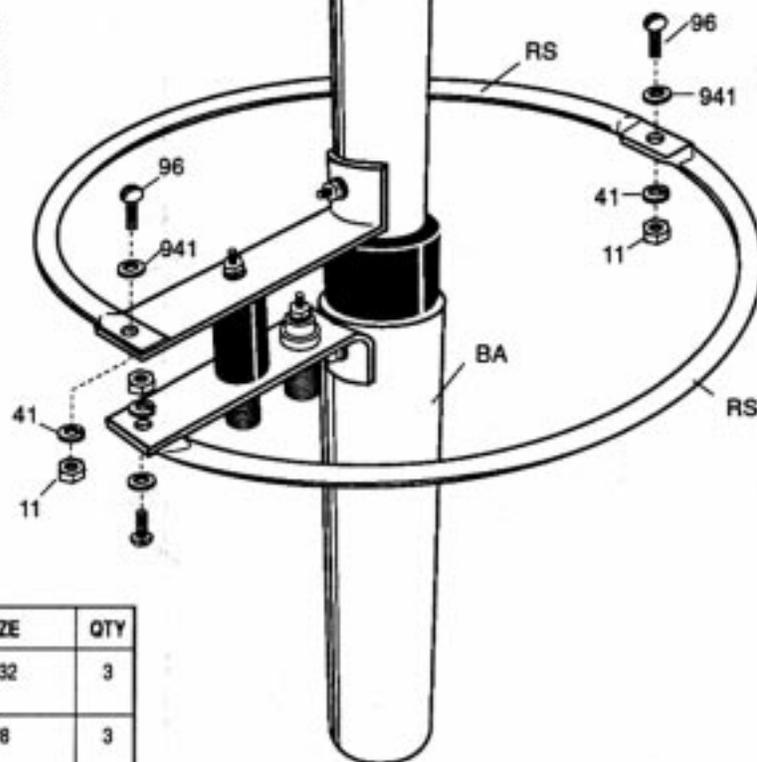

FIGURE 1
Mount one half ring (RS) to the bottom side of the lower bracket on the base assembly (BA) using hardware shown in Figure 1. Mount the other half ring to the top of the upper bracket. Connect the two half rings to form a circle around the base assembly.